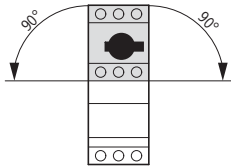

Figure 7: Approved mounting positions of the PKZM0/XTPR...BC1 motor-protective circuit-breakers
- Mount the motor protective circuit breaker only as shown in fig. 7.